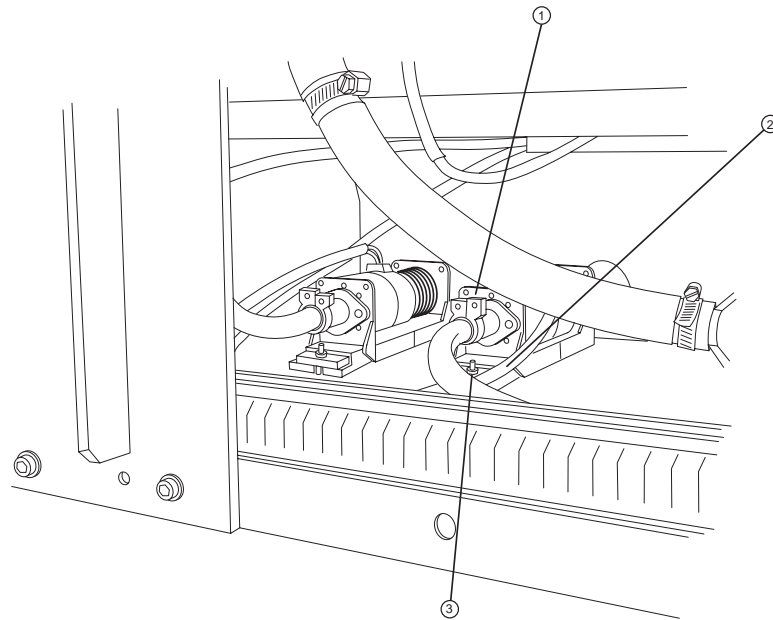
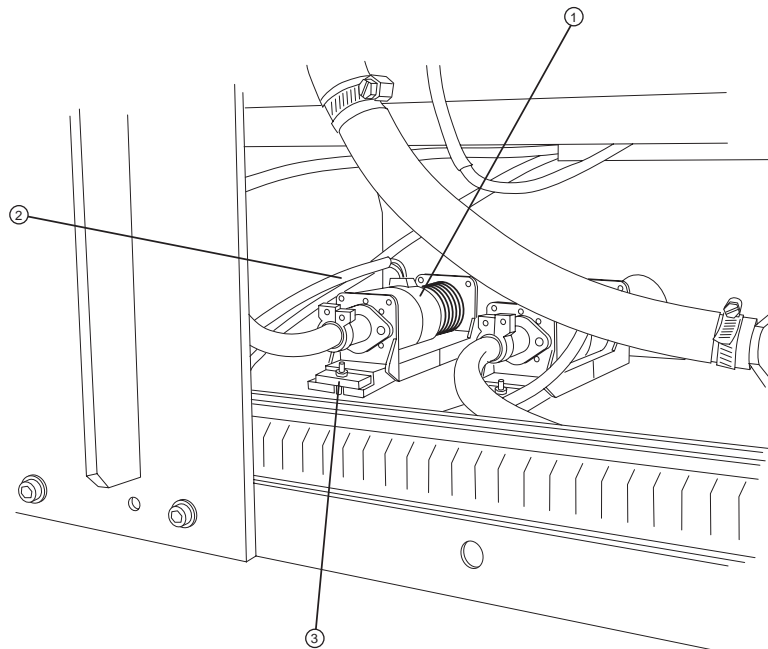

Figure 3-12 The fixer pump.
Figure 3-13 The Developer Pump.
4. Disconnect the hoses at the pump. Refer to Figure 3-12 and Figure 3-13.